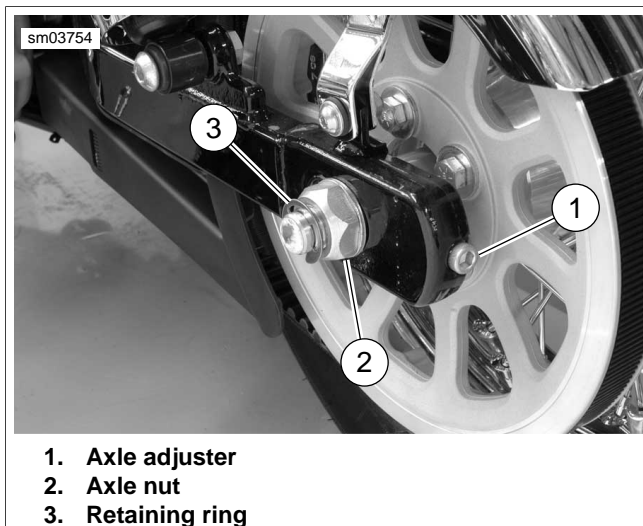

Figure 5-38. Axle Adjusters (Left Side Shown)
3. See Figure 5-38. Remove rear axle retaining ring (3). Loosen rear axle nut (2). Loosen both axle adjusters (1) to release tension on the drive belt.